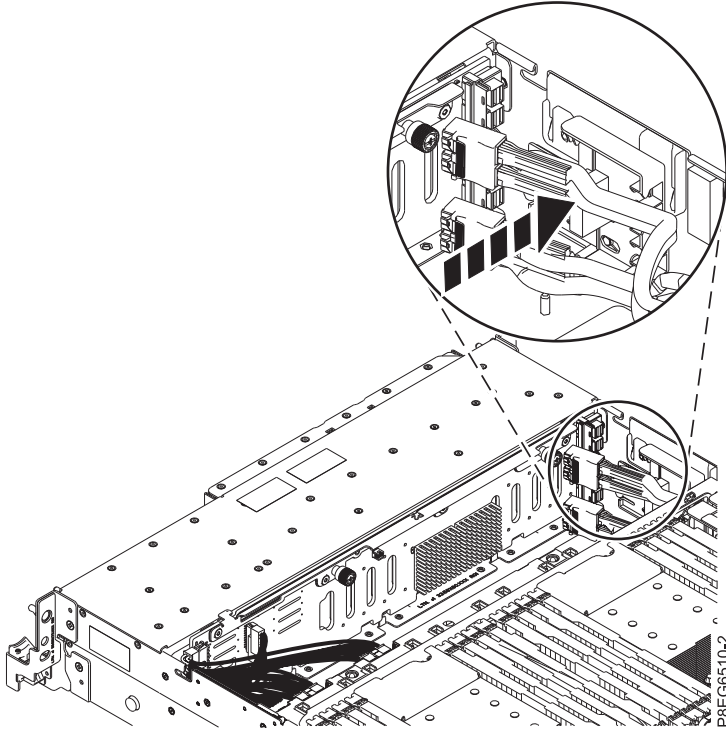

Figure 7. Reseating the front SAS cable into the guide block
8. Reseat the front SAS cable into the guide block on the side of the chassis, as shown in Figure 7 on page 10.